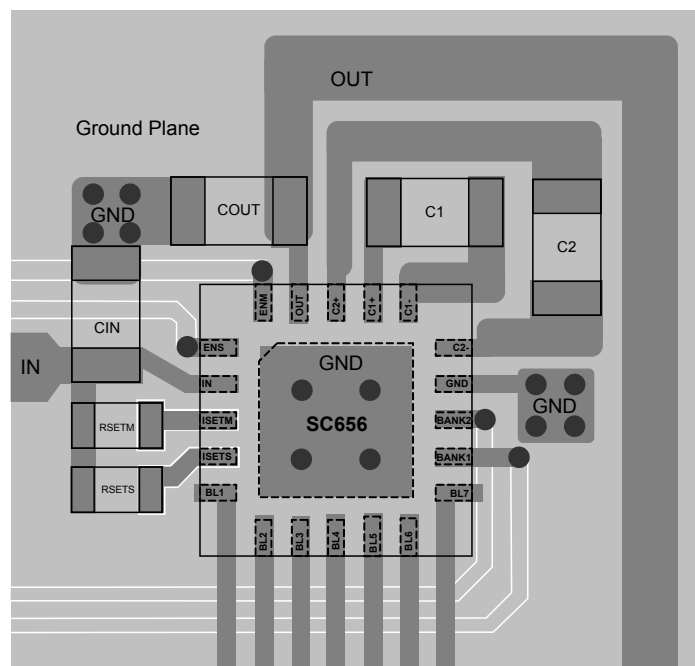

Figure 2 — Recommended Layout
The layout diagram in Figure 2 illustrates a proper two layer PCB layout for the SC656 and supporting components. Following fundamental layout rules is critical for achieving the performance specified in the Electrical Characteristics table. The following guidelines are recommended when developing a PCB layout:
- Resistors R_{SETM} and R_{SETS} should be connected as shown in Figure 2, close to pins IN and ISET. The placement and routing shown minimizes parasitic capacitance at the ISET pin.